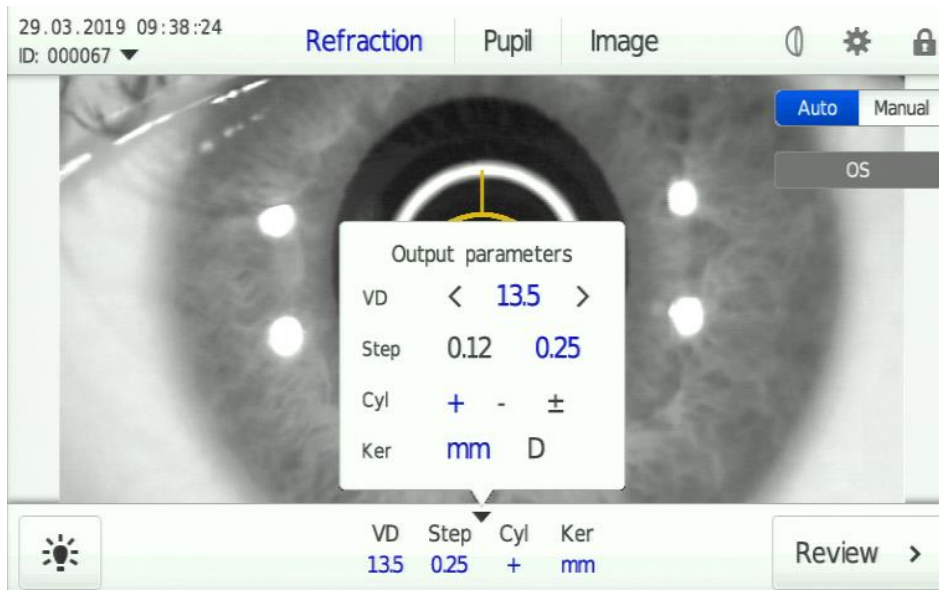

Fig. 26 Unfolded parameter control panel
- ➡ After tapping the **parameter control panel** (4, Fig. 25), a pop-up window opens where the desired parameters (Fig. 26) can be set. The changes in this window are saved immediately. The current values are shown in blue characters.